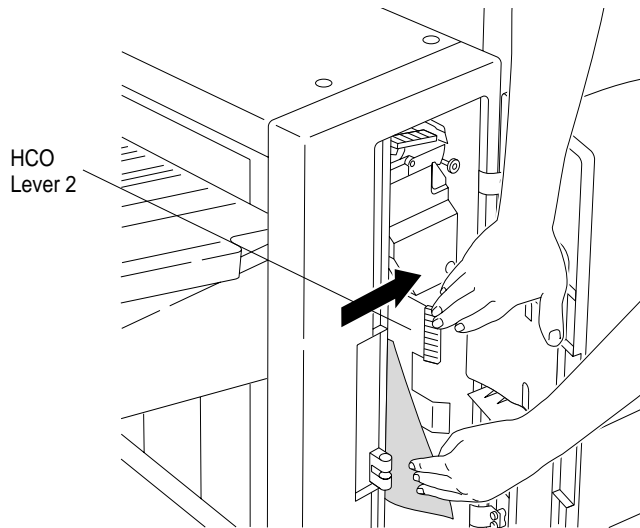

Figure 3-66 Clearing HCO lower section paper jam using Lever 2
3. Pull lever 2 back (Figure 3-66) and remove any paper.